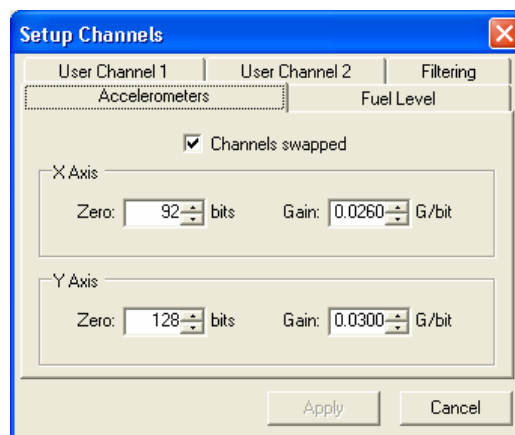

Figure 34 - Setup Channels Dialog (Accelerometers Page)
1. Choose **Setup** ➔ **Channels** from the main menu. The Setup Channels Dialog (Figure 34) appears.
Click the **Accelerometers** tab to display the Accelerometers page (Figure 34) of the Setup Channels Dialog.